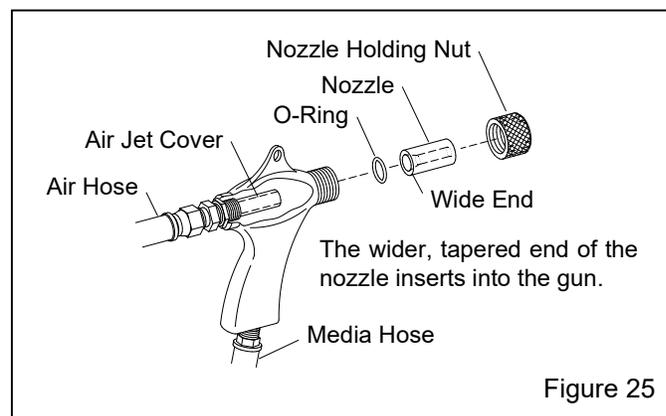

Figure 25
7.2 BNP® Gun and Hose Assembly – Figure 25